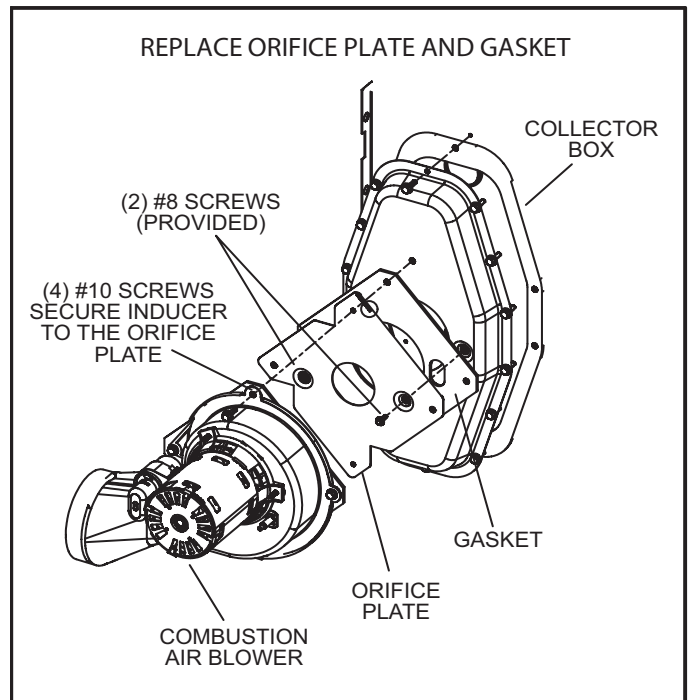

FIGURE 1
- 5 - Remove the four #10 screws securing the combustion air inducer to the orifice plate and set aside. See figure 1.